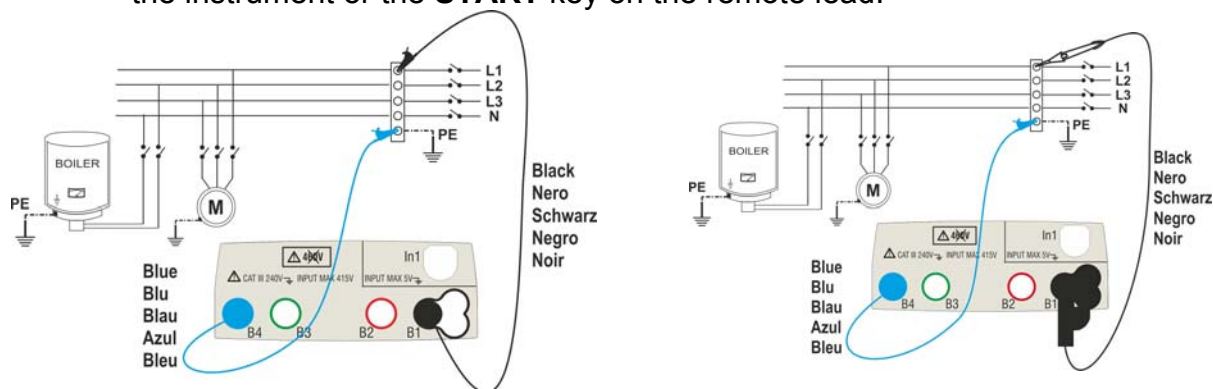
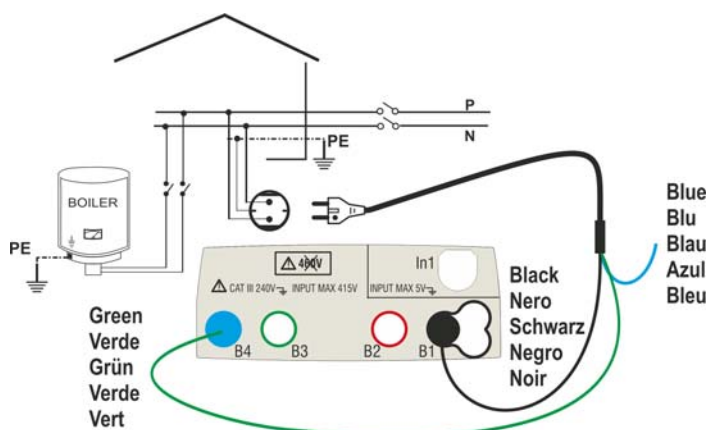

Fig. 8: Insulation test between phase and earth by means of single cables and remote lead
Fig. 9: Insulation test between phase and earth by means of shuko plug
6. Connect the alligator clips and/or test leads and/or remote lead to the ends of the conductors to be tested as in Fig. 8 and Fig. 9.